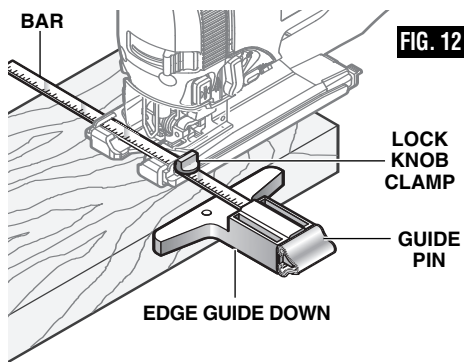

FIG. 12
This accessory is available at an extra cost. It is used for fast and accurate straight and circle cutting (Fig. 12).
1. Insert bar of guide through lock knob clamp, then through the slots provided in foot, from either side of foot with the edge guide facing DOWN (Fig. 12).
2. Hook lock knob clamp onto edge of footplate, adjust fence to desired width, and securely tighten lock knob clamp (Fig. 12).